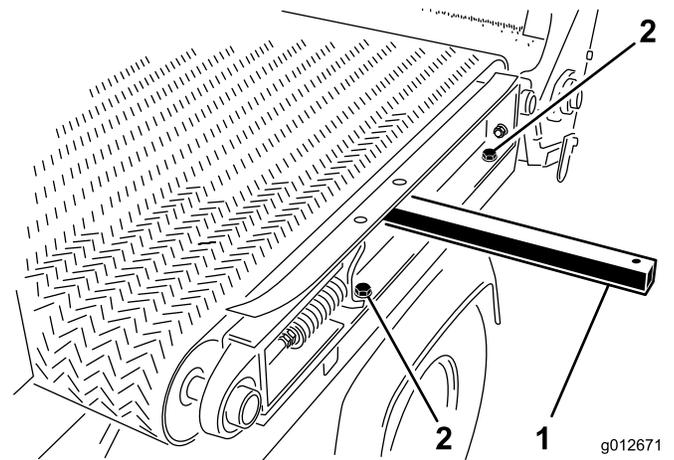

Figure 26
- Remove (2) capscrews, washers and nut, on left side of machine, securing slider bed to frame (Figure 26).
- Insert a lift bar into hole on left side of machine and raise lift bar to tip slider bed (Figure 26).